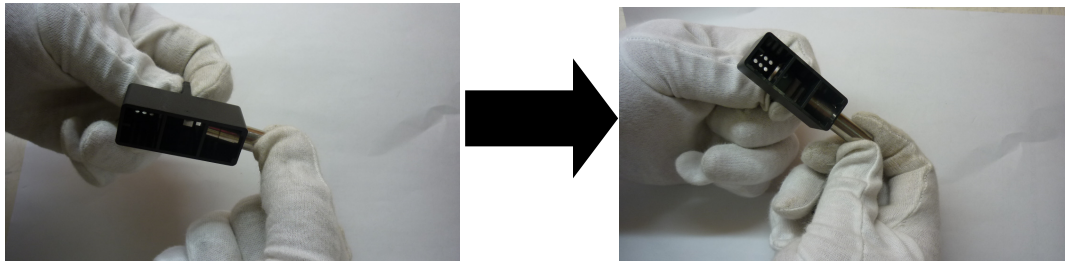

Figure 9.3.2: Take off the broken fuse
- B) Next, take off the broken fuse or dummy fuse from the fuse cover as shown in figure 9.3.2: